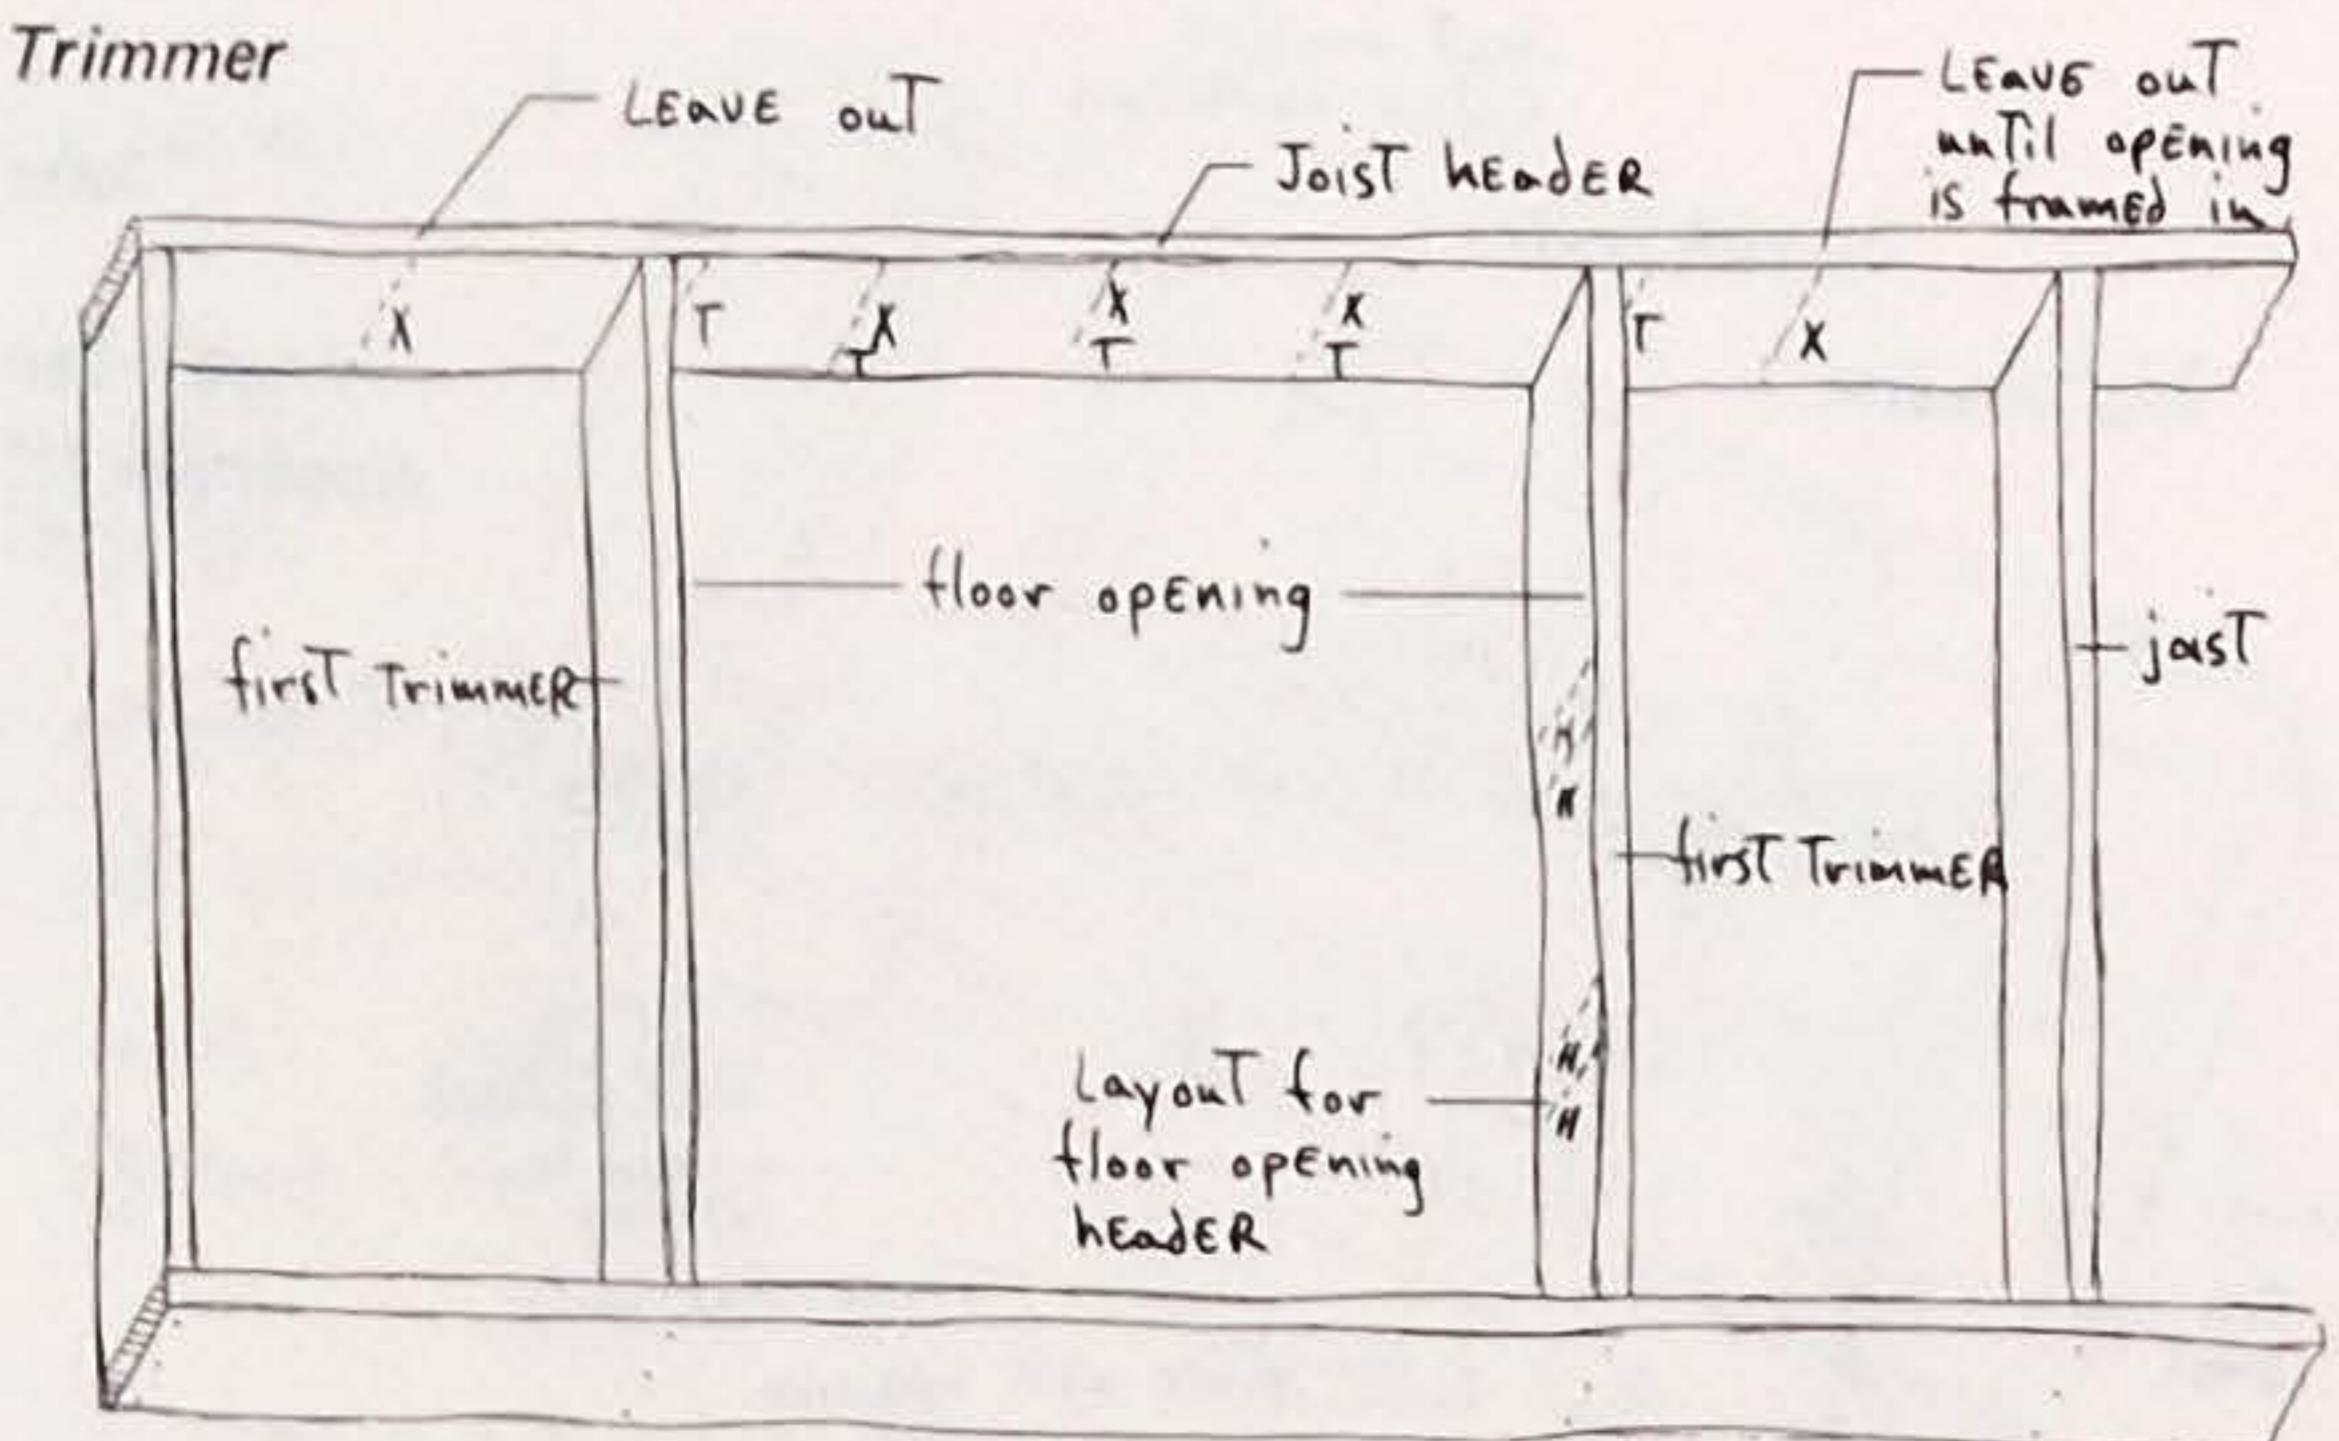

Fig. 7- Laying Out & Installing The first TRIMMERS
1. Install the first trimmers on either side of the opening, but leave out for now the adjacent joists so there will be nailing room when the header is nailed to the trimmer, and when the second trimmer is nailed to the first trimmer. Fig. 7.